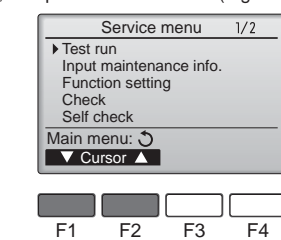

Fig. 7-3
- ③ Select "Test run" with the [F1] or [F2] button, and press the [✓] button. (Fig. 7-3)